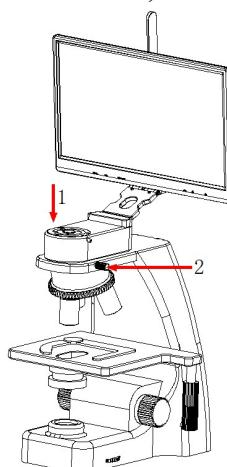

Figure 2
1) place the smart all-in-one camera to the end of the microscope objective, as shown in figure 2;